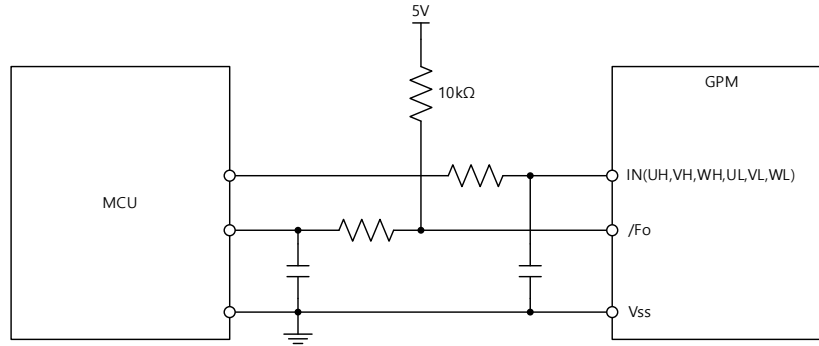

Figure 6. Recommended MCU I/O Interface Circuit
2. Fault output is an open-drain type. This signal line should be pulled up to the positive side of the MCU or control power supply with a resistor that makes I_{FO} up to 1 mA. Please refer to Figure 6.
3. Input signal is active-HIGH type. There is a 5 kΩ resistor inside the IC to pull-down each input signal line to GND. RC coupling circuits should be adopted for the prevention of input signal oscillation. RC time constant should be selected in the range 50-150 ns (recommended $R = 100\Omega$, $C = 1$ nF). Please refer to Figure 6.